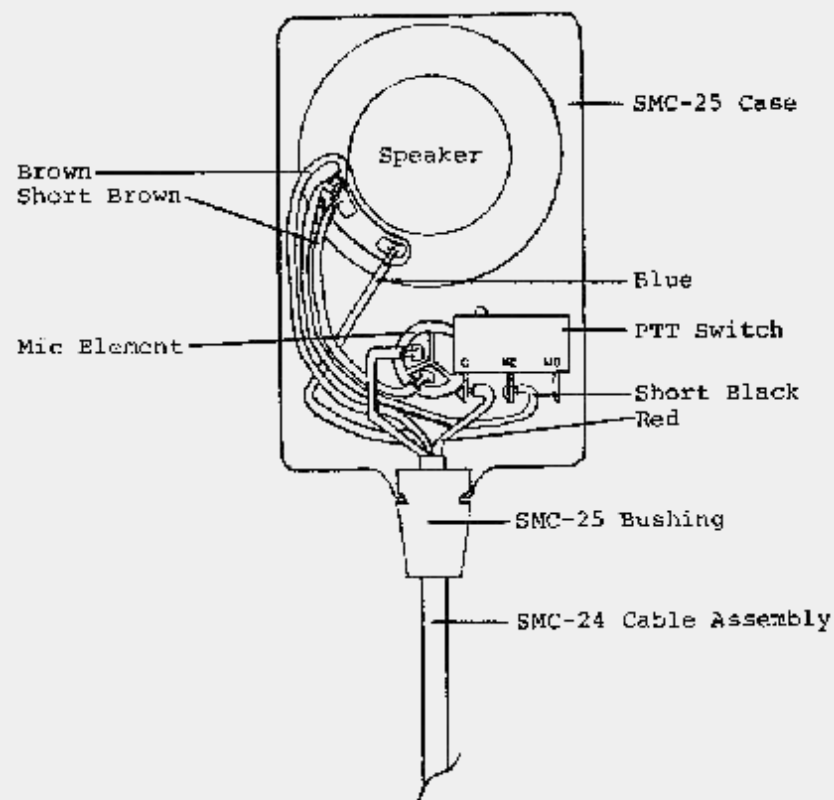

Figure 2
2. Run a strip of cloth tape (nul vinyl tape) approximately 1/2 inch wide, across the top edge of the Display unit directly under the volume control. This will prevent the control using from intermittently touching the PCB and causing loss of offset functions. In similar manner, add insulation as shown at "B" and "C". (Fig.2)